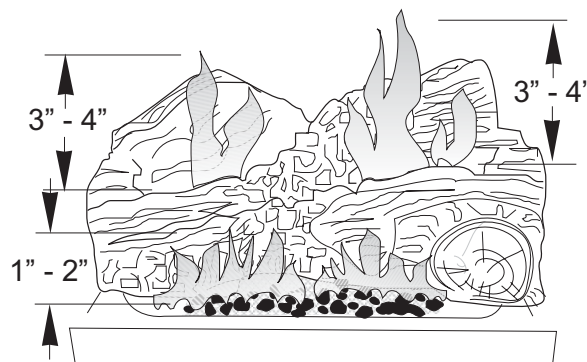

Figure 25. Correct flame appearance on High setting after approximately 15 to 20 minutes operation.
3. BURNER ADJUSTMENT: The GF3 DVII Allagash gas stove is equipped with a variable gas control valve. This valve provides easy adjustment of the flame height appearance and heat output. To adjust the flame between the HI and LOW setting, rotate the HI/LOW knob, located in the center of the valve face. Flame height will adjust approximately 1.0" to 1.5" between the HI and LOW settings. See Figure 25.